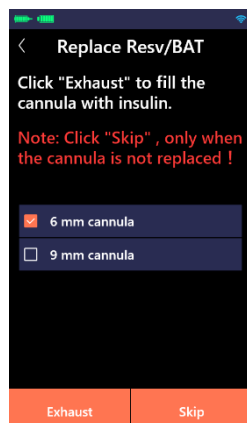

Figure 4.23
(5) Exhaust. Select the length of the soft cannula you are using, and then click "Exhaust", the insulin will fill the soft cannula (as shown in Figure 4.23).